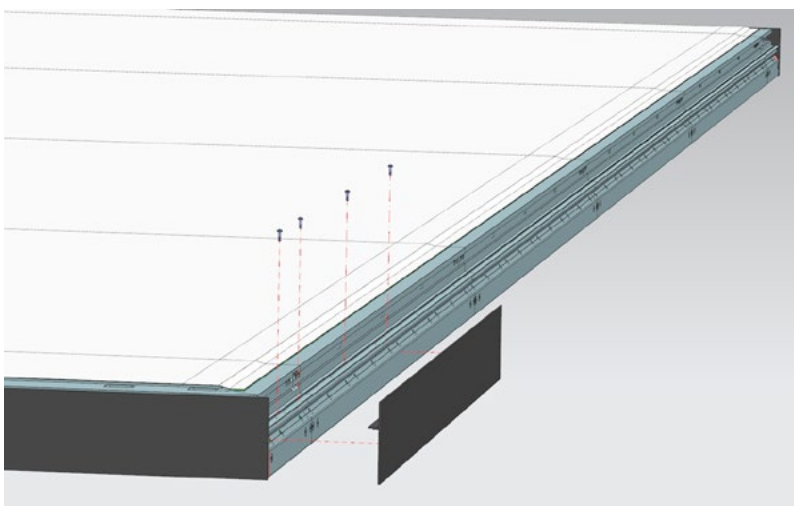
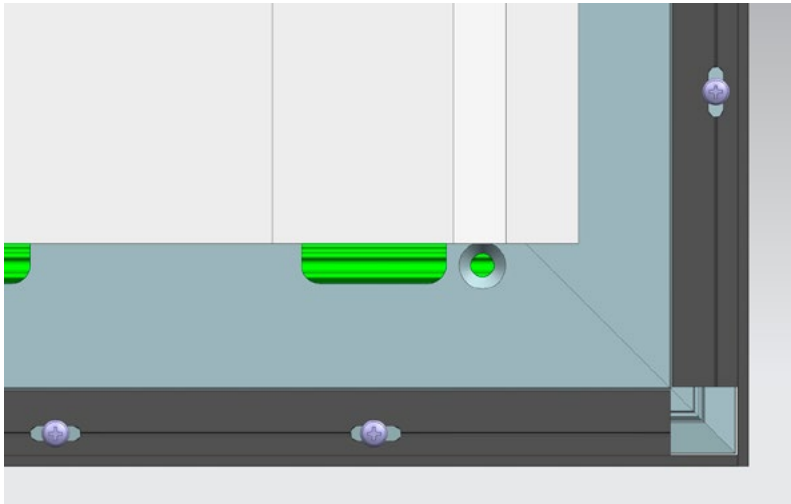
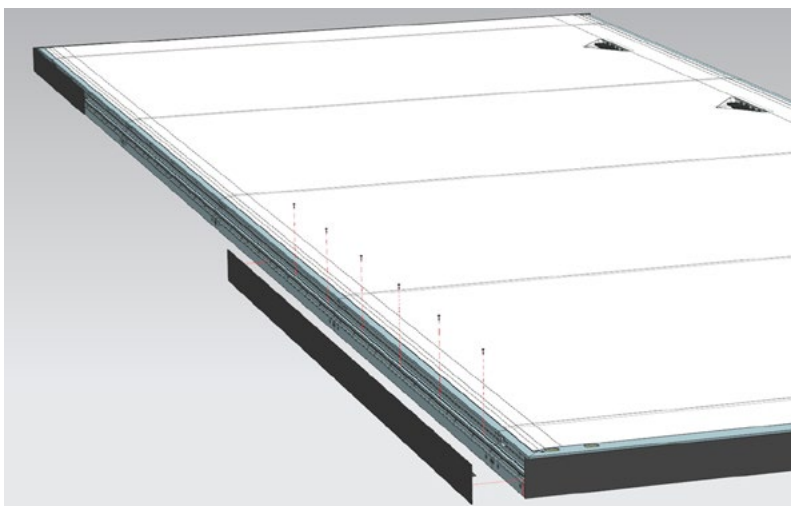
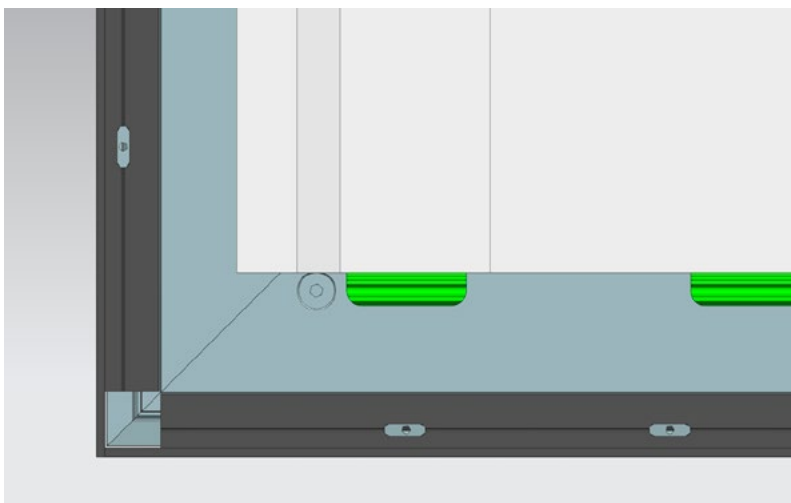

Figure 20: Place pieces labelled 2.
Figure 21: Alignment of pieces labelled 1 and 2.
Figure 22: Place piece labelled 3.
Figure 23: Alignment of pieces labelled 2 and 3.
- Then place pieces (2) such that their ends meet the end of piece (1), without leaving any gap, see Figure 20 and Figure 21.
- Fine tune the position of (1) if necessary.
- Do the same with piece (3) at the other end, see Figure 22, and again without leaving any gap, see Figure 23.